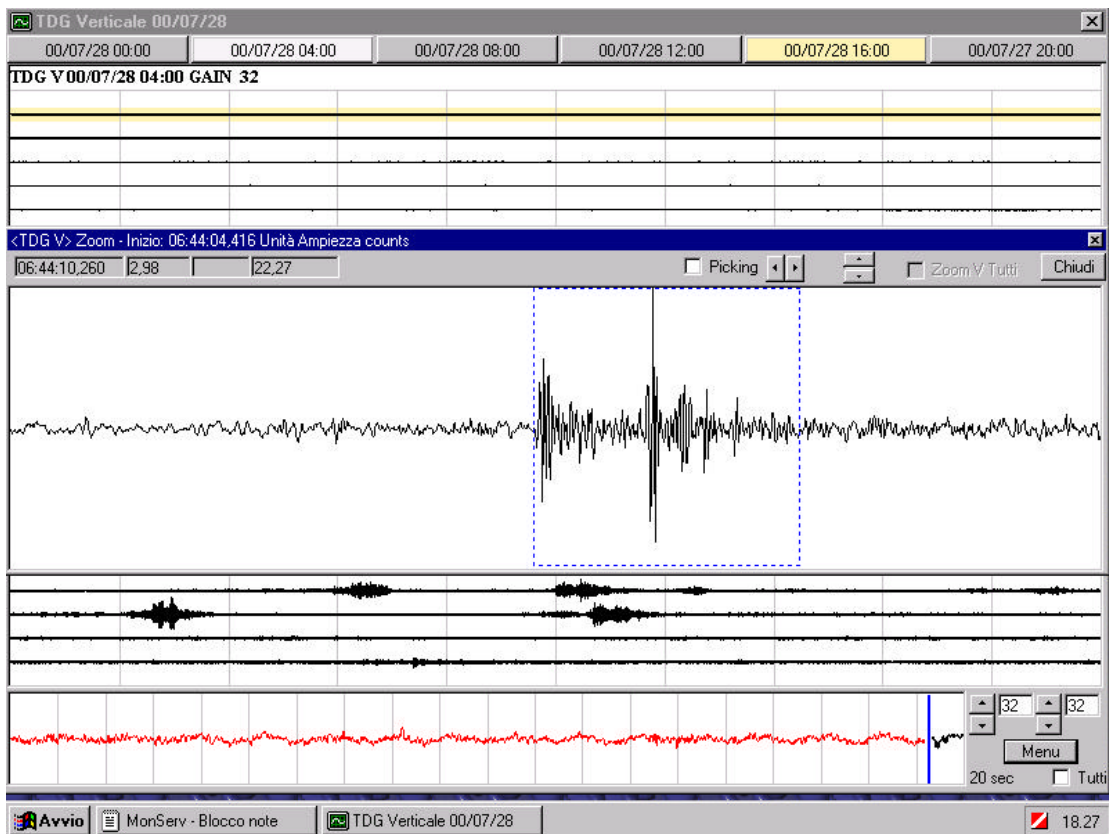

Fig. 2 - The WINDRUM zoom window.
- A large picture box, showing a graphical page with a continuous seismic signal of a given number of hours. The other graphical pages, for a total of 24 hour, are in background. They can be moved to foreground by mouse clicking the labeled buttons at the top of the windows. It is possible to zoom a signal segment by mouse clicking the trace. At the first click a label with time will appear and at the second one a new window will appear (Fig.2), showing the zoomed signal. If pressing the right button after the first click the selection will be removed.